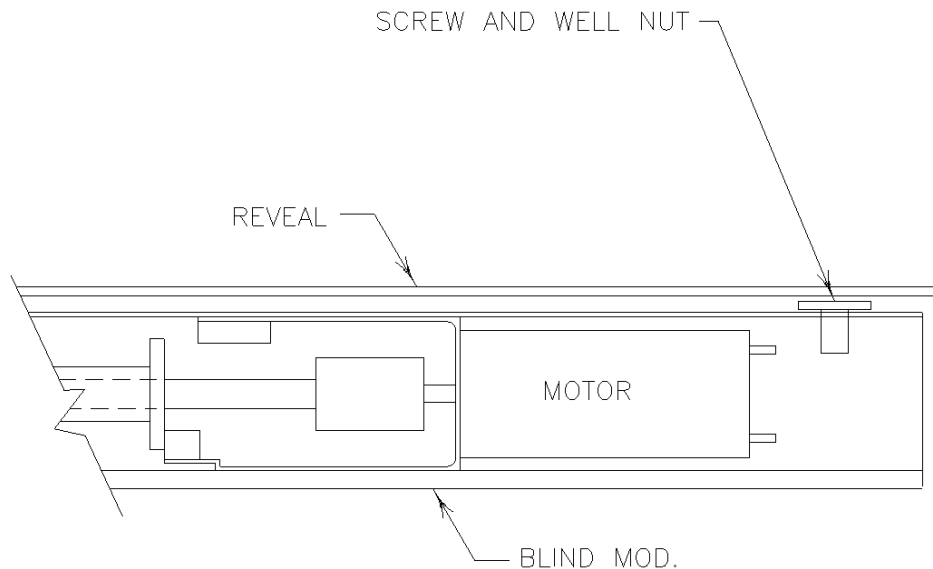

FIGURE 9/ GRAPHIC 25-23-03-991-009
- B. The blind mod. is attached with two screws on the backside of the reveal. Remove the two screws and the blind will be free from the reveal. Refer FIGURE 9/ GRAPHIC 25-23-03-991-009